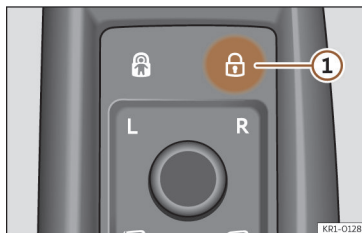

Fig. 71 On the driver's door: central locking button.
- Lock: press the  button >>> **Fig. 71**.
- Unlock: Press the  button >>> **Fig. 71** again.